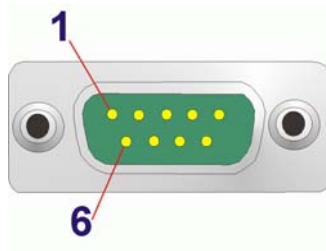

Figure 3-25: Serial Port Pinout Locations
- CN Pinouts:** See **Table 3-25** and **Figure 3-25**